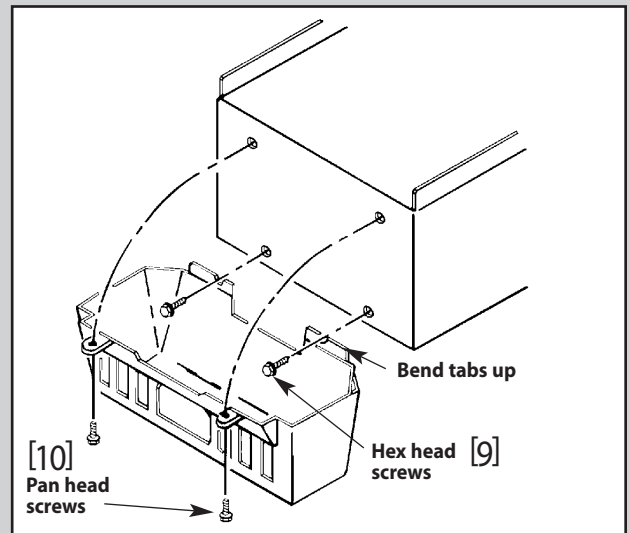

Fig. 11-2
3. **Start two (2) No. 8 x 3/4" hex head screws into bottom holes of panel (Fig. 11-2).**